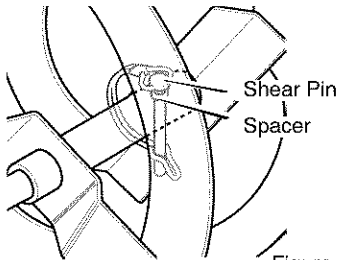

Figure 43
3. Align the hole in the auger with the hole in the auger shaft. Install the new **shear pin** and **spacer**. See Figure 43.